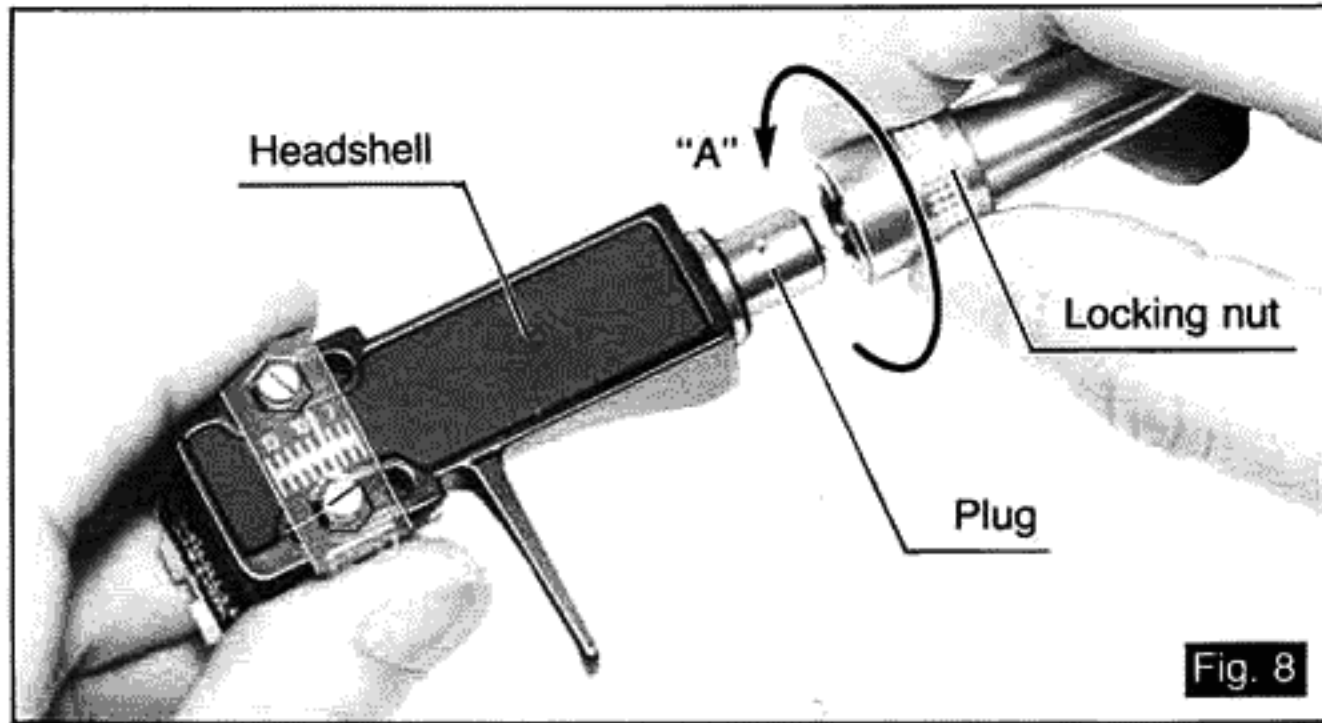

Fig. 8
### ⑥ Installation of the headshell. (See Fig. 8).